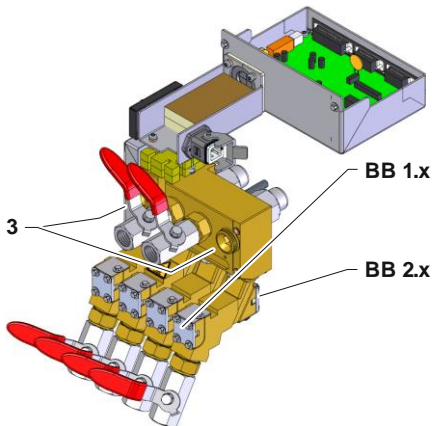

Fig. 4: Flow-5 with ball valve
- If present install shut-off valve OUT 1 and 4 (Label 3 → Fig. 4).